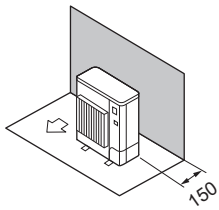

Fig. 2-7
- (1) Kun forhindringer bagved (Fig. 2-7)